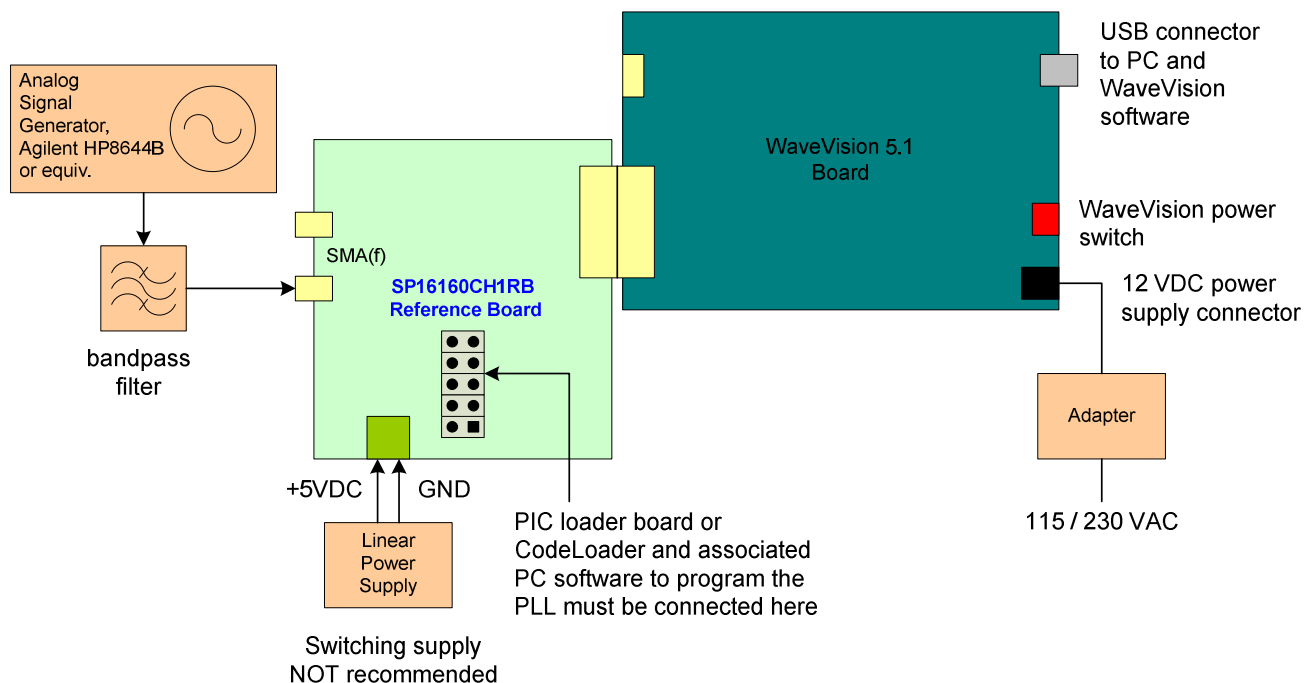

Figure 4: Connection diagram for the SP16160CH1RB board and WaveVision 5.1 data capture hardware
- Connect the WaveVision 5.1 Digital Interface Board to your PC through the supplied USB cable and apply power to the WaveVision 5.1 board through the +12V AC-DC power adapter included in the WaveVision 5.1 hardware kit. The connection diagram is shown in Figure 4.
- Connect the SP16160CH1RB reference board to the WaveVision 5.1 board through the FutureBus connector as shown in Figure 4. The SP16160CH1RB reference board should not be powered up, as the WaveVision hardware does not support hot-swapping of boards.
- Connect a 5.0V power supply capable of sourcing up to 1A to the green, 2-terminal power connector located along the side edge of the SP16160CH1RB board. This is shown in Figure 4. Ensure that the polarity of the wires going to the green power connector match the "+5V" and "GND" labels on the reference board. After the polarity is verified, turn on the 5V supply.
- Connect the signal source to the "SMA_AMP_I" SMA connector indicated in Figure 1. The recommended signal generators are the HP8644B (HP/Agilent) or the SMA100A (Rohde & Schwarz). A bandpass filter between the signal generator output and the SP16160CH1RB SMA connector is required to measure the true performance of the board. A Trilithic bandpass filter is recommended. See Figure 4.